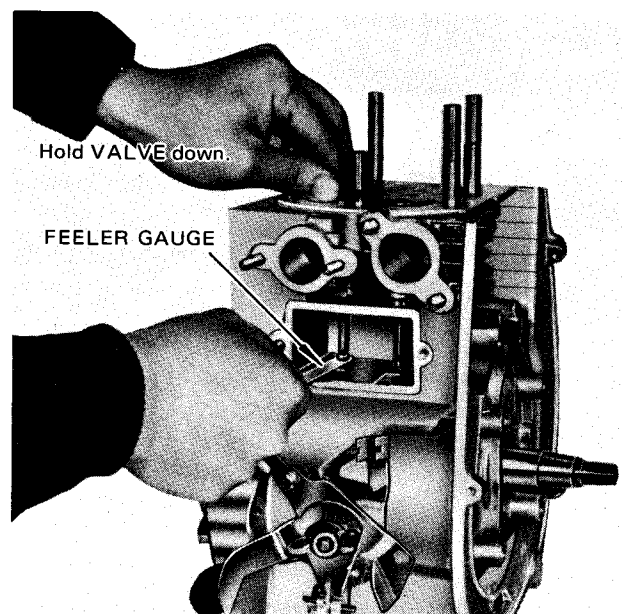

Fig. 5-3-5
- * Lower the tappet all the way down, push the valve, and insert a feeler gauge between the valve and tappet stem to measure the clearance. (See Fig. 5-3-5.)